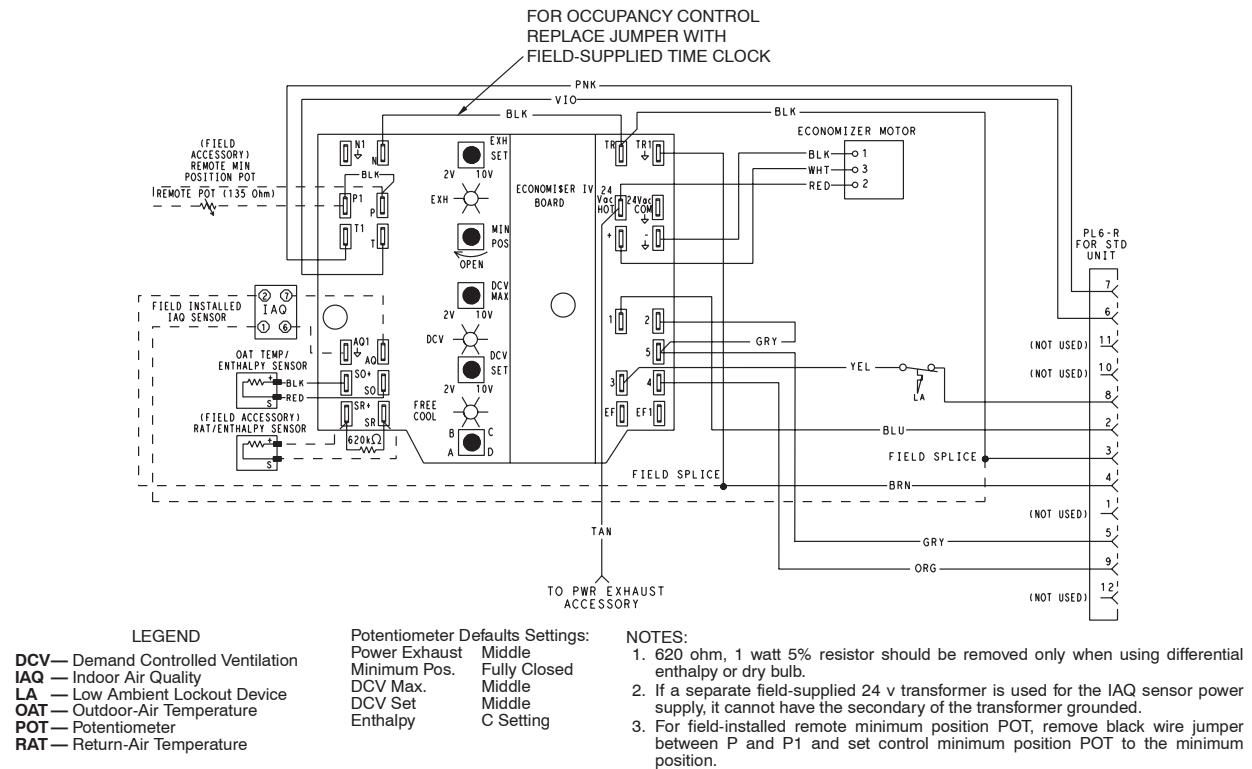
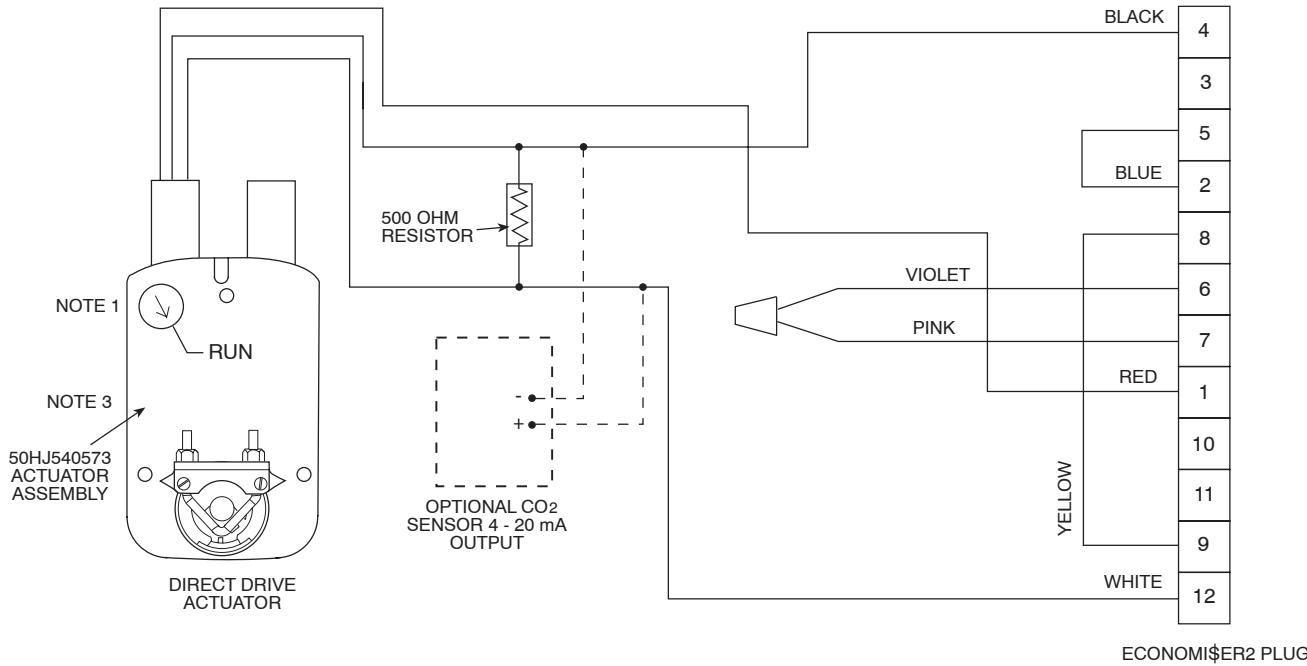

Fig. 29 – EconoMi\$er IV Wiring
Fig. 30 – EconoMi\$er2 with 4 to 20 mA Control Wiring
10. Install all EconoMi\$er IV accessories. EconoMi\$er IV wiring is shown in Fig. 29. EconoMi\$er2 wiring is shown in Fig. 30.
IMPORTANT: The optional EconoMi\$er2 does not include a controller. The EconoMi\$er2 is operated by a 4 to 20 mA signal from an existing field-supplied controller (such as PremierLink™ control). See Fig. 30 for wiring information.
For differential dry bulb control the standard outdoor dry bulb sensor is used in conjunction with an additional accessory dry bulb sensor (part number CRTEMPSON002A00). The accessory sensor must be mounted in the return airstream. (See Fig. 37.) Wiring is provided in the EconoMi\$er IV wiring harness. (See Fig. 29.)
Replace the standard outside air dry bulb temperature sensor with the accessory enthalpy sensor in the same mounting location. (See Fig. 22.) Mount the return air enthalpy sensor in the return air duct. (See Fig. 37.) Wiring is provided in the EconoMi\$er IV wiring harness. (See Fig. 29.) The outdoor enthalpy changeover set point is set with the outdoor enthalpy set point potentiometer on the EconoMi\$er IV controller. When using this mode of changeover control, turn the enthalpy setpoint potentiometer fully clockwise to the D setting.
3. Ensure that the factory-installed jumper is in place across terminals P and P1. If remote damper positioning is being used, make sure that the terminals are wired according to Fig. 29 and that the minimum position potentiometer is turned fully clockwise.
The factory default configuration for the EconoMi\$er IV control is occupied mode. Occupied mode is provided by the black jumper from terminal TR to terminal N. When unoccupied mode is desired, install a field-supplied timeclock function in place of the jumper between TR and N. (See Fig. 29.) When the timeclock contacts are closed, the EconoMi\$er IV control will be in